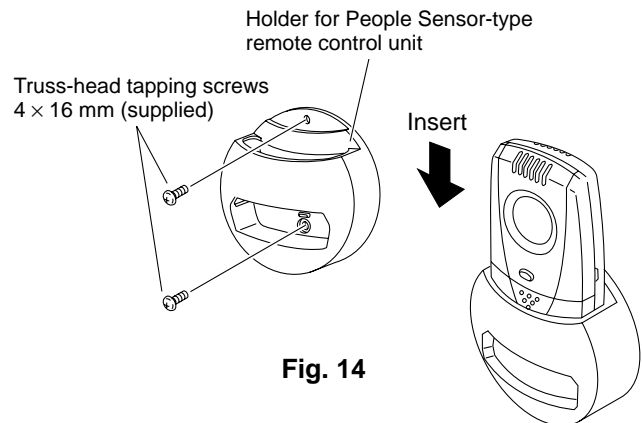

Fig. 14
- (2) When taking out the remote control unit, pull it from the holder. (Fig. 14)
Turn the power source switch ON at the spot where you intend to install the holder, and confirm the indoor unit beeps. (Figs. 14 and 15)